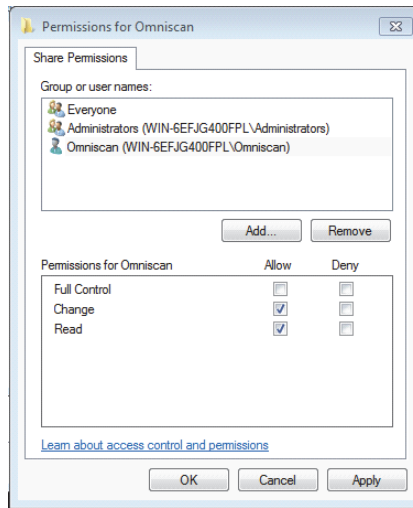

Figure 7-33 The Permissions for Omniscan dialog box (Windows 7)
14. In the **Permissions for Omniscan** dialog box, select the **Change** and **Read** check boxes in the **Allow** column for the Omniscan user, and then click **OK** (see Figure 7-33 on page 222).